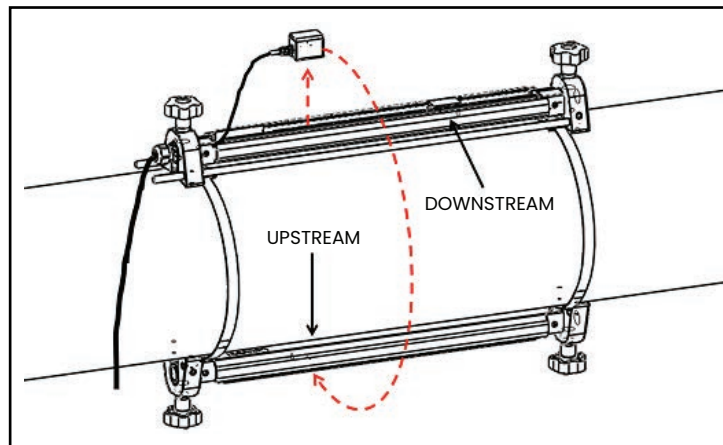

Figure 20: Relocate the upstream transducer
- b. Remove the upstream transducer from the first fixture (see Figure 20 below). Disconnect the transducer cable and route the cable into the second fixture.